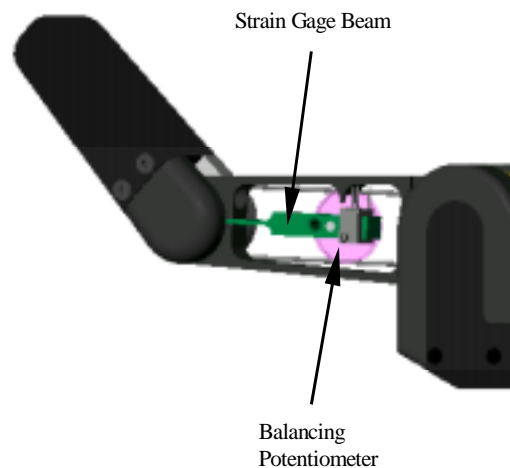

Figure 17 - Balancing Potentiometer
5. Adjust the balancing potentiometer using a small flat head screwdriver until the desired value is reached. The balancing potentiometer requires very small adjustments, due to its sensitivity. Apply as little pressure as possible on the balancing potentiometer during adjustment. See Figure 17.